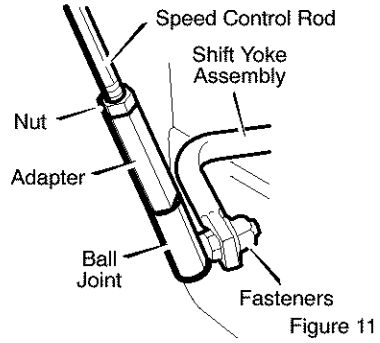

Figure 11
4. Attach the **ball joint**, located on the bottom end of the **speed control rod**, to the **shift yoke assembly**. See Figure 11. The **fasteners** are attached to the **ball joint** at the factory.